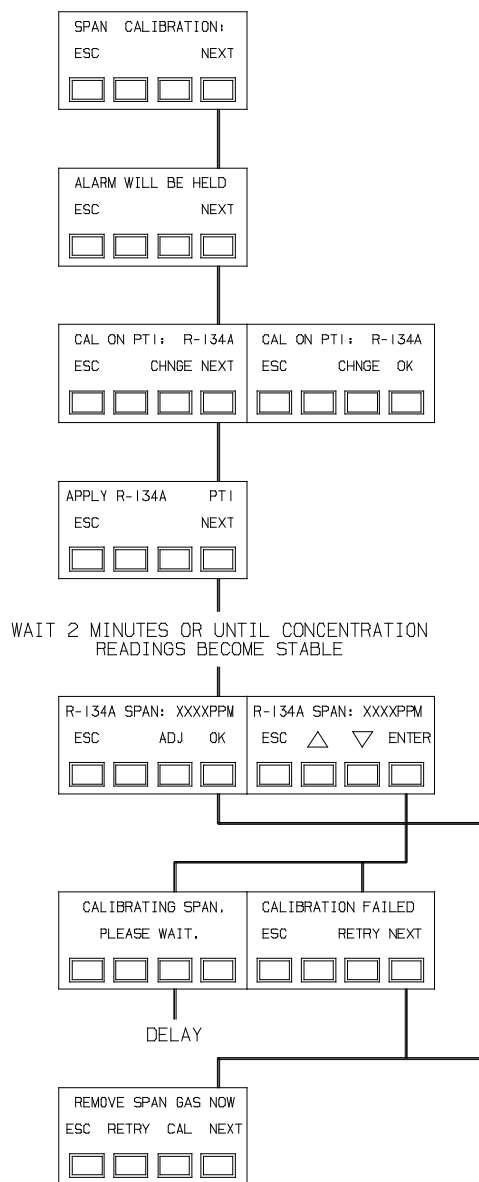

Figure 3-4
- the monitor returns to the previous sequencer setup (see FIGURE 3-4).
- Calibration Screens (FIGURES 3-4 through 3-6)